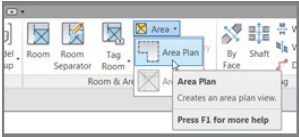

FIGURE 15.24: Clicking the Area Plan button
- 1. On the Room & Area panel of the Architecture tab, select Area and click the Area Plan button, as shown in Figure 15.24.